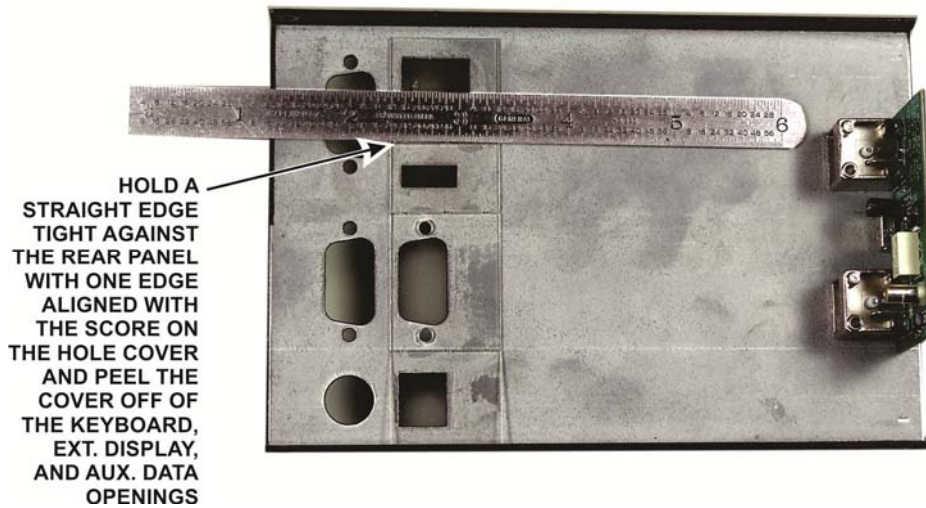

Figure 10. Removing Hole Covers.
□ Remove the plastic covering from the AUX. DATA, EXT. DISPLAY and KEYBOARD openings on the rear cover, but leave the covering over the SENSOR opening (see Figure 10). The plastic cover will snap apart at the score mark as you bend it away from the panel.